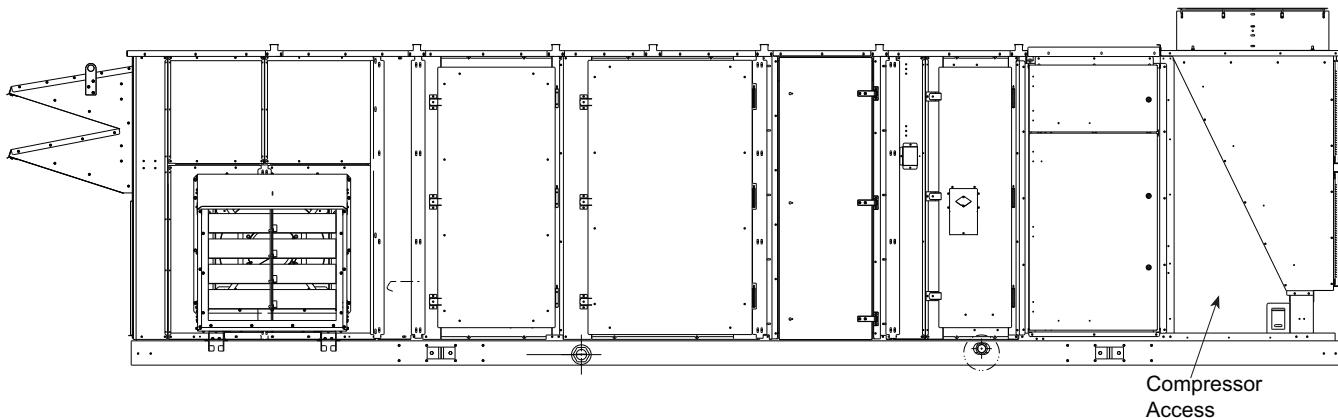

Fig. 1 — 48/50V 027-035 Compressor Access
- b. Access compressor section through side of unit. See Fig. 1 and 2.